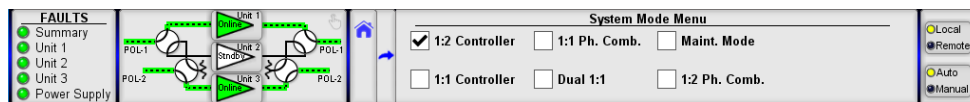

Figure 13: System Mode, 1:2 Controller
Figure 13 shows the RF Signal Path Display for the three (3) amplifiers in a 1:2 Redundant System. The green dotted lines indicate the RF path through the input switches on POL1 and POL2, to Unit 1 (HPA1) and Unit 3 (HPA3) and then through the output switches. The online amplifiers are also green to indicate their online status.